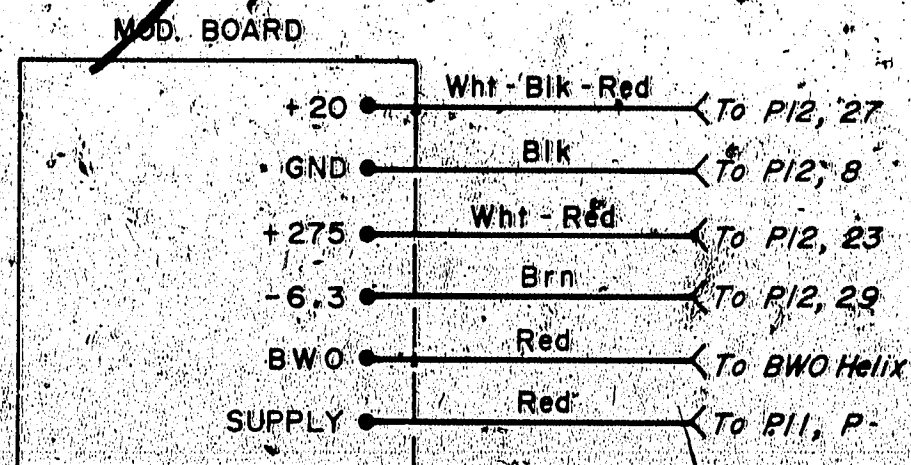

Figure 3. - 8693B Shunt Modulator Board Connections.
11. Install the new wiring harness between connectors P11 and P12 and the new Modulator board. Connections are shown in Figure 3.